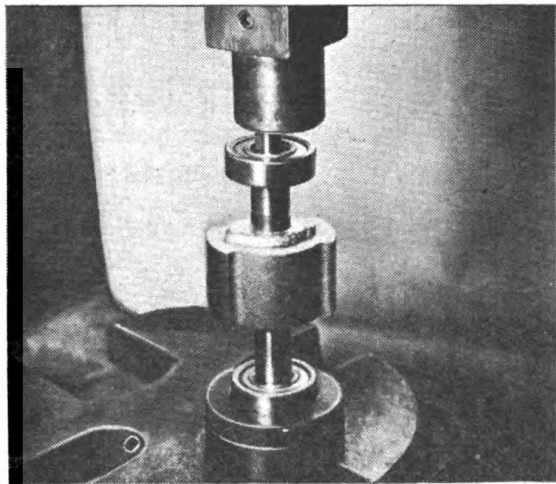

Fig. 64. Replacing Bearing on Rotor Shaft
2. Replacing bearings: Place the tool for assembling bearings on the shaft on the table of the arbor press. Place the socket for assembling ball bearings on shaft in ram of arbor press. Place the ball bearings on the shaft and press into place. Fig. 64.